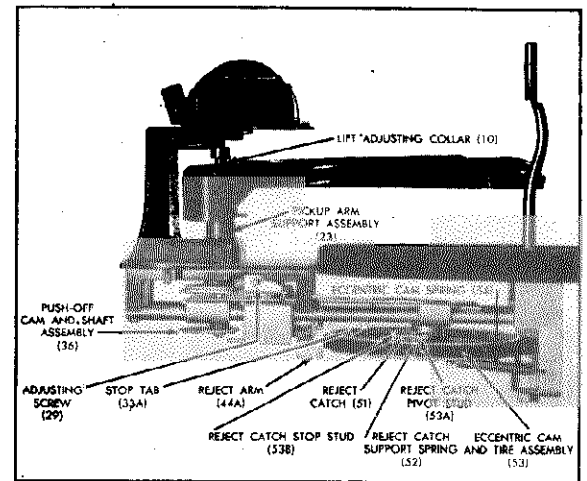

FIGURE 3
8. REJECTING A RECORD. (See Figures 3 and 6.)
The reject button (59A) is located on the top of the arm rest (59). The parts used to provide push button rejection are shown in Figures 3 and 6.
Figure 3 shows the changer going thru cycle, that is, in the process of rejecting a record. When the changer is out of cycle the reject catch (51) engages both the stop tab on the arm control plate and the reject arm (44A). If the changer is allowed to finish playing the record, the stop tab on the arm control plate is withdrawn from behind the reject catch (51); the eccentric cam (53) is then pulled against the knurled roller (46) and the change cycle begins. However, when the reject button (59A) is pressed the reject trigger wire (64) pulls the reject arm (44A) from behind the reject catch (51); the eccentric cam (53) is then pulled against the knurled roller (46) and the change cycle begins.
This changer is designed so that the 10-inch set-down point, the 12-inch set-down point, and the pickup or trip point are simultaneously adjusted in a single operation. It is recommended that you make the adjustment at either of the set-down points. This adjustment is made by means of the adjusting screw (29) shown in Fig. 3. Turning this screw counter-clockwise will cause the arm to set down closer to the centerpost; turning it clockwise will cause the arm to set down further